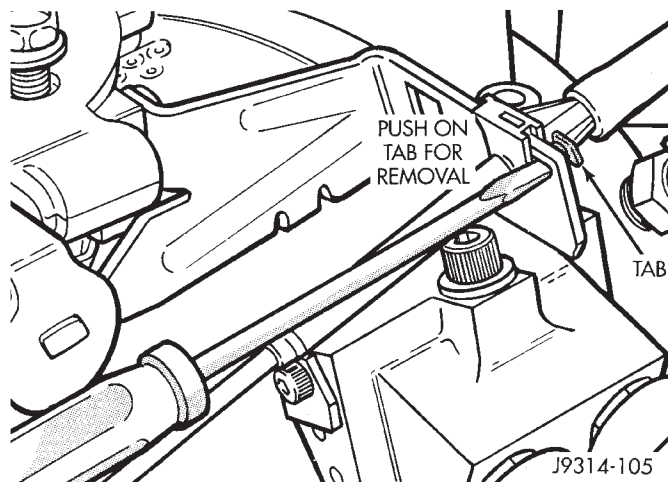

Fig. 39 Cable Release Tab—Typical V-6/V8 Engine
(6) Remove cable housing at throttle body mounting bracket by pressing forward on release tab with a small screwdriver (Fig. 39). **To prevent cable housing breakage, press on tab only enough to release cable from bracket.** Lift cable housing straight up from bracket while pressing on release tab. Remove cable housing.